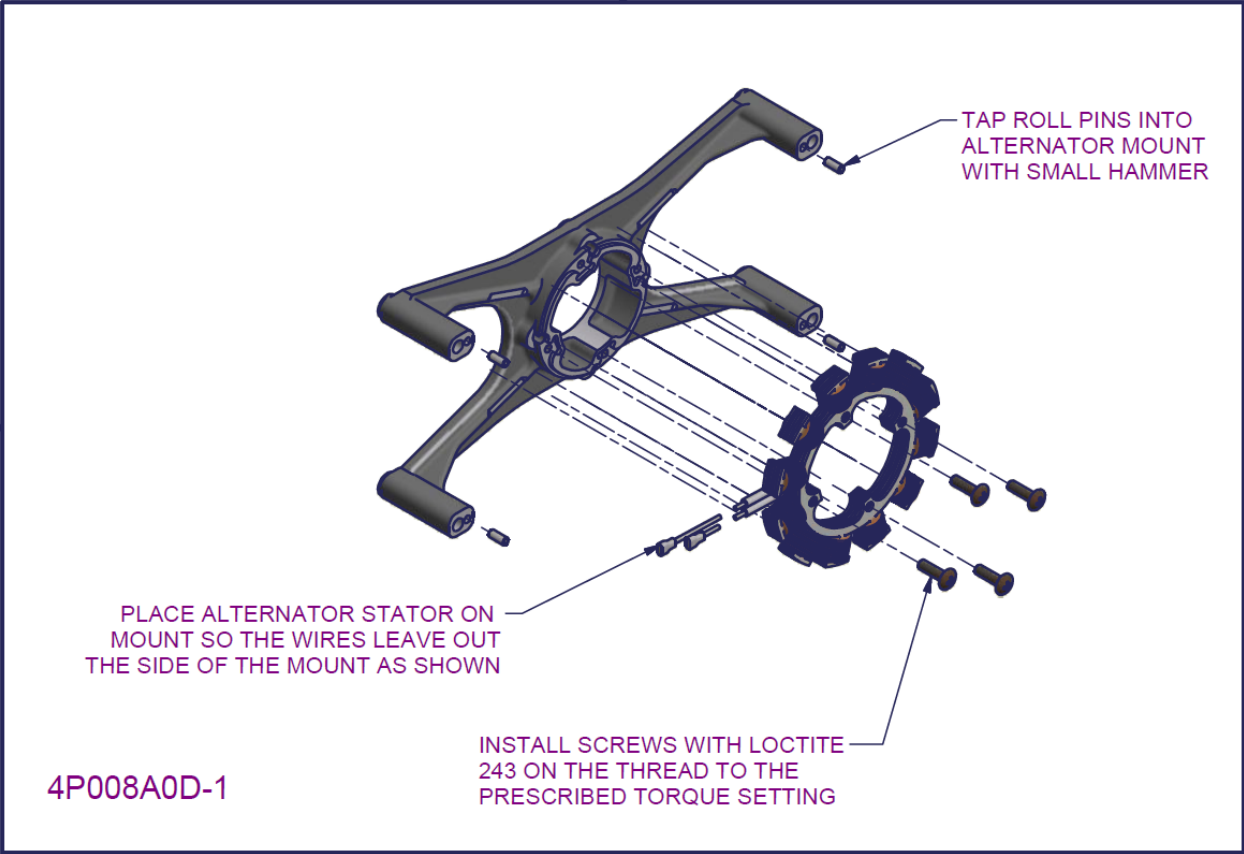

Figure 99 – 2200/ 3300 alternator stator subassembly 1
- Place alternator stator on mount with the wire orientated with relief (as pictured in Figure 99) when later mounted on the engine.